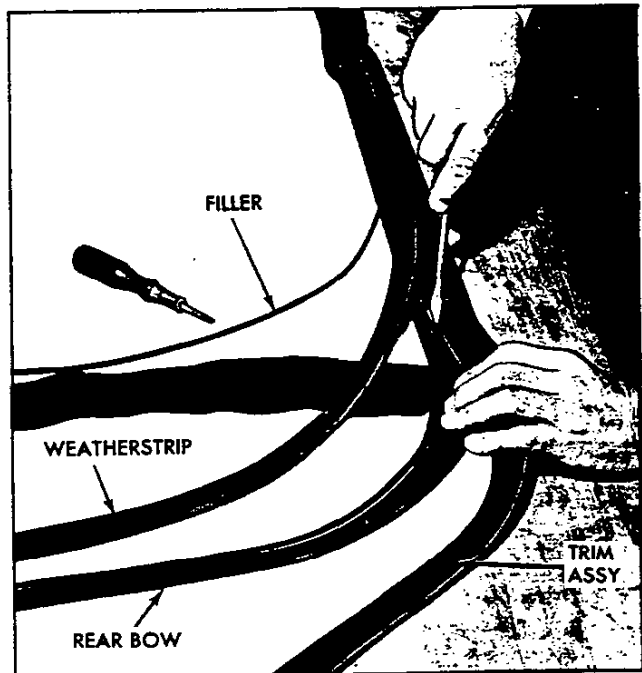

Fig. 72-Installing Trim and Weatherstrip to Rear Bow
weatherstrip and trim from rear bow. Section A-A shows installed position of these components. Refer also to Figure 72.
2. Assemble top trim and weatherstrip to rear bow, referring to Section A-A and Figure 72. Note that filler strip locks this assembly together and goes in last. Align center marks.